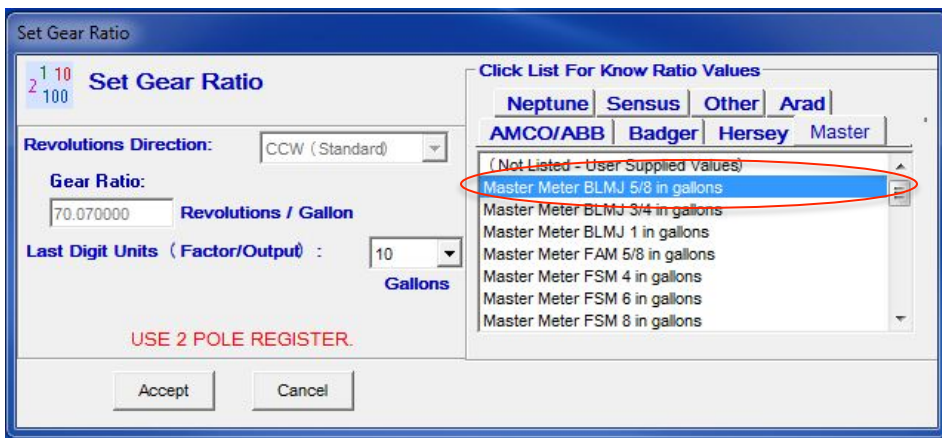

Figure 1: Settings for Master Meter 5/8 BLMJ meter in USG
- **Gear Ratio Division** - is set to a number of 10, 100, 1000. This temporarily divides the programmed gear ratio by the indicated number. In our example, the desired least significant odometer wheel is in tenths of a gallon (which we originally programmed to be 10 USG as in Fig. 1). Thus, we must select the value of 100 (10 USG divided by 100 will deliver a reading in 10ths of 1 USG).
- Upon completion of test mode, a check box **Reset Odometer** is available to reverse the odometer reading back to zero, or other customer determined value. 0 There are two areas of concern when using this feature. The first is that if a large volume of water is used during testing, this could take some time to return an odometer style interpreter back to its reading prior to testing. Gear Ratio Division is set to a number of 10, 100, 1000. This temporarily divides the programmed gear ratio by the indicated number. In our example, the desired least significant odometer wheel is in tenths of a gallon (which we originally programmed to be 10 USG as in Fig. 1). Thus, we must select the value of 100 (10 USG divided by 100 will deliver a reading in 10ths of 1 USG).